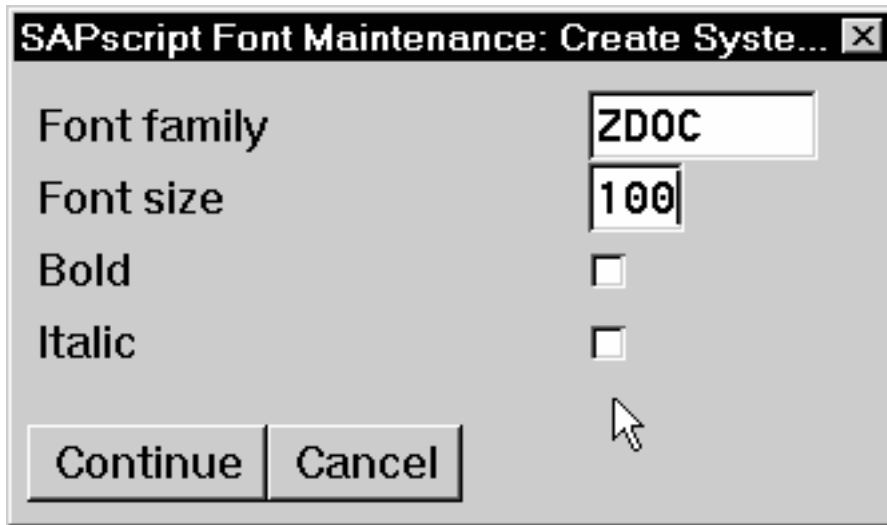

Figure 61. SAPScript Font Maintenance Create System... window
7. Fill in the information from the **Create System...** window as shown in Figure 61 on page 141: